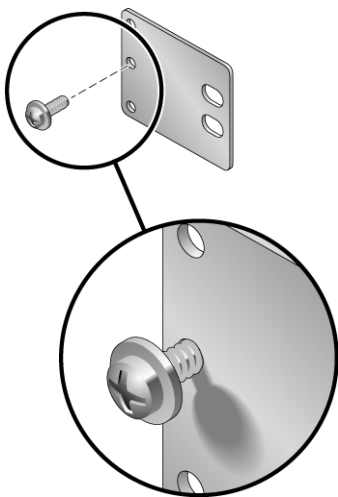

FIGURE 3-5 Installing a Screw for the Middle Rack Position on the Rear Plate
- a. Using one M5 × 7 SEM screw for each rear plate, loosely install the screw in one of the three positions on the rear plate (FIGURE 3-5).
The position of the screw varies depending on the thickness of the rail in the rack. For example, FIGURE 3-5 shows where you would install the screw for the middle rack position on the rear plate.